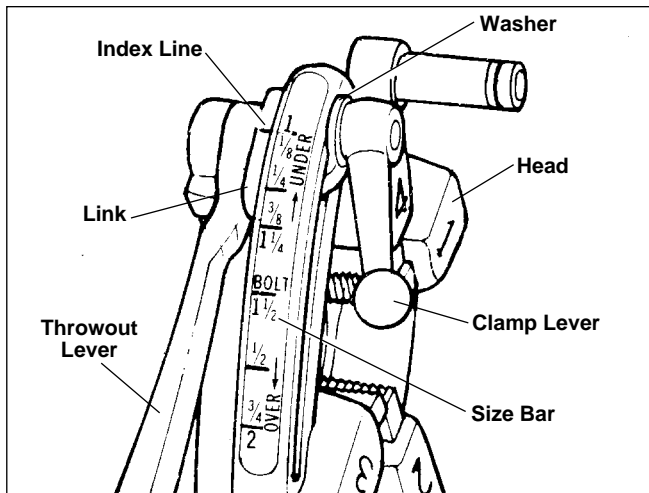

Figure 12 – Universal Quick-Opening Die Head
**Quick-Opening 811A Die Head (Figure 12) –** When the end of pipe being threaded is flush with the end of the Number 1 die, rotate throwout lever to OPEN position, retracting dies.